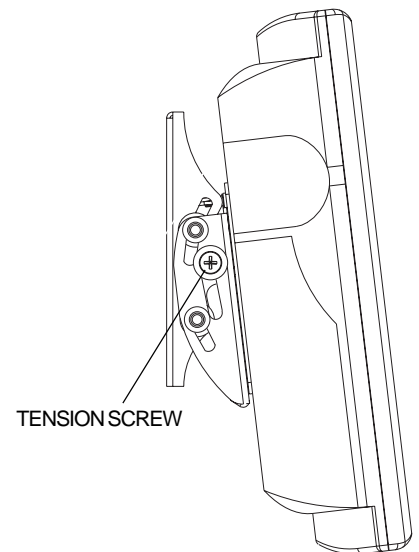

fig. 4.2
**Note:** To lock the screen into the desired tilt position, tighten tension screw on left side of mount shown in figure 4.2 using phillips screw.